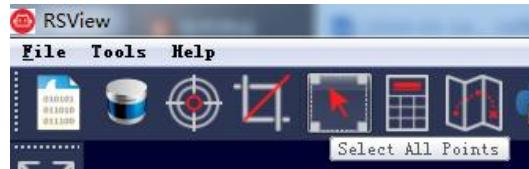

Figure C-13 RSView Select All Points Tool
8. Click the **Select All Points** tool, which turns your mouse into a data point selection tool (Figure C-13).